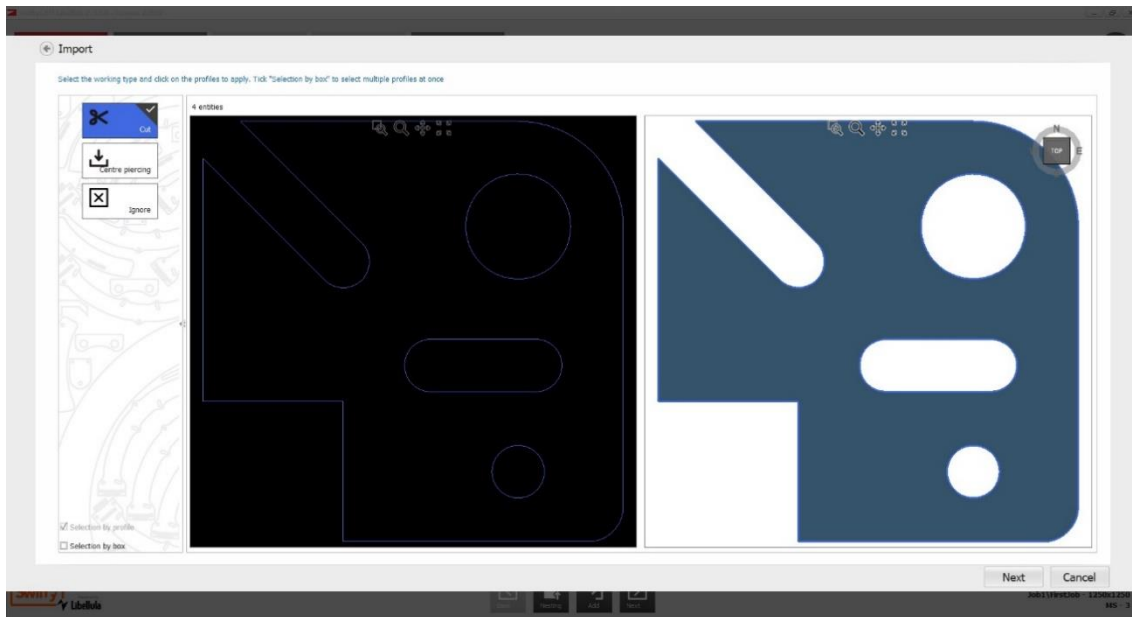

Fig 50 Selecting working type
6. The working types are as follows (refer to Fig 50):